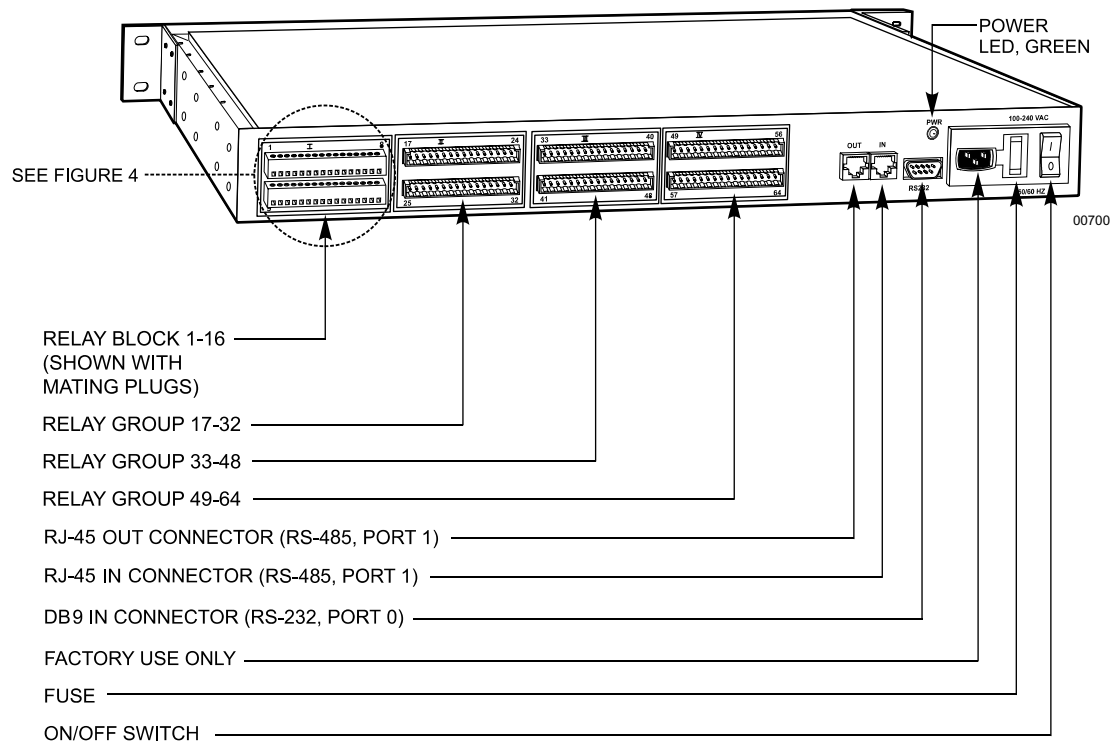

Figure 2. Rear View of the REL2064
1. Four groups of 16 contact pairs, each with mating plugs for the attachment of peripheral equipment; only the group for the first 16 contact pairs is shown in Figure 2 with mating plugs